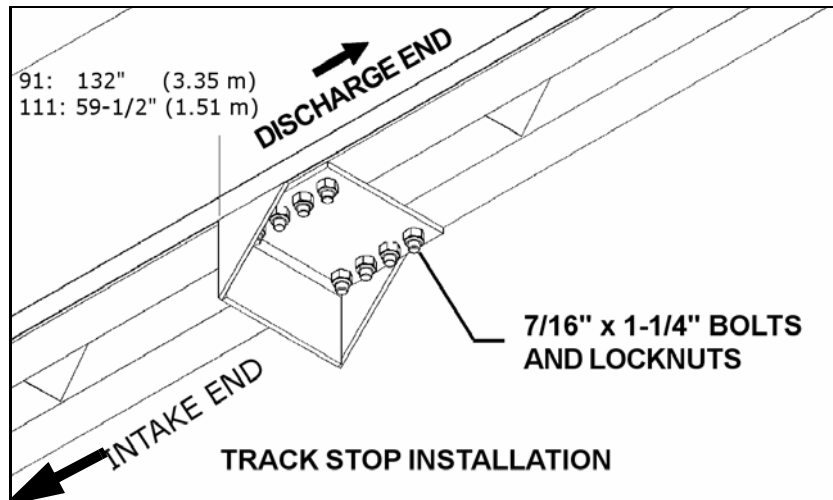

Figure 3.20
2. Attach the trackstop to the upper end of the track on the auger tube with eight 7/16" x 1-1/4" GR8 bolts and locknuts. See Figure 3.20.
➔ The 91' auger trackstop should be 132" from intake end of the upper middle tube, while the 111' trackstop should be 59-1/2" from intake end of the upper middle tube (Figure 3.20).